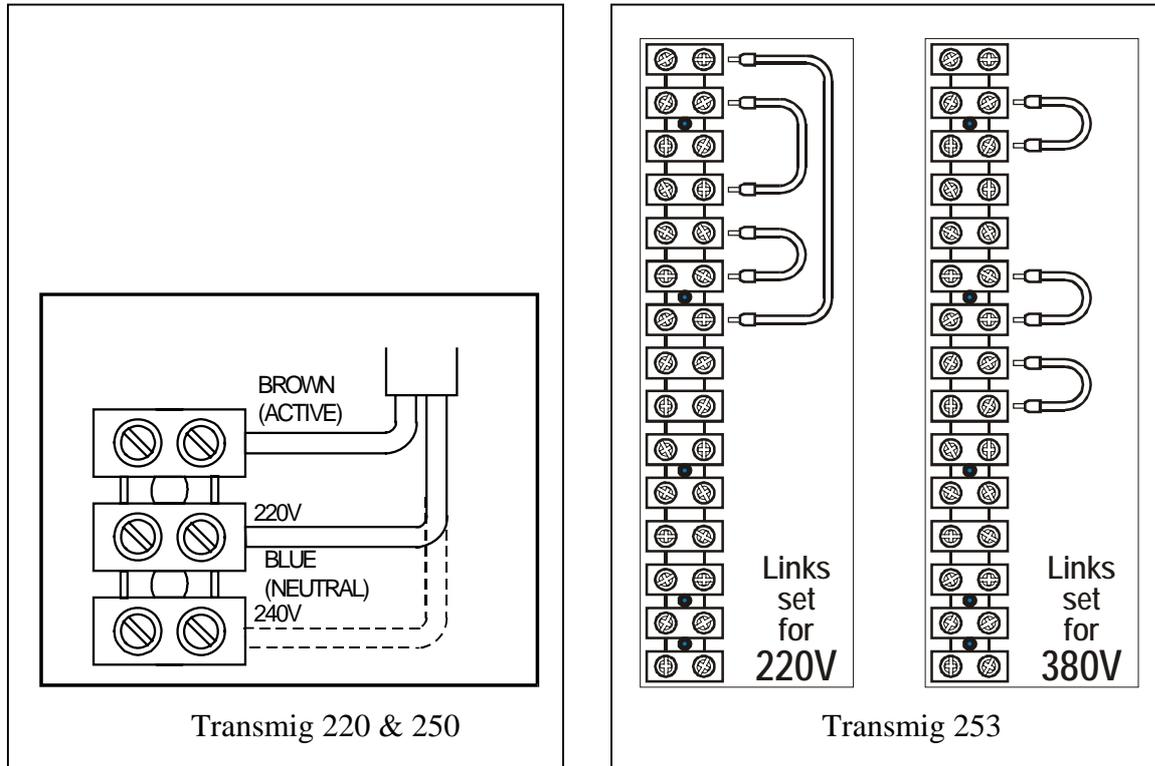

Figure 4 – Input Supply Voltage Set
- b) Refer to Figure 4 for Input Supply lead termination.